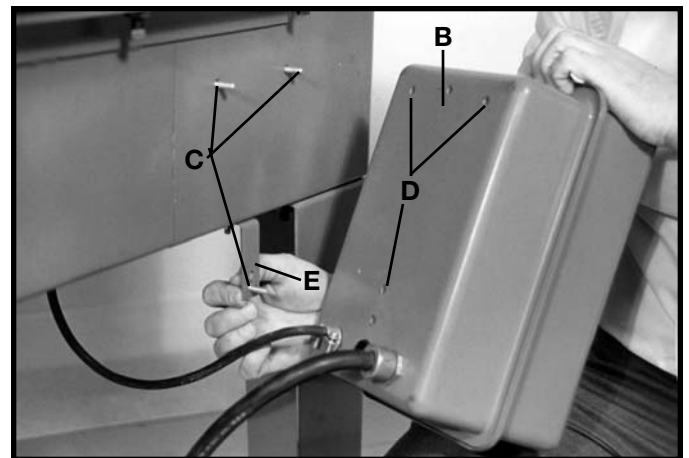

Fig. 14
2. Assemble the starter box (B) Fig. 14, to the right side of the base. Place a 1/4" lockwasher onto a 1/4-20x1/2" hex head screw, place a 1/4" flat washer on the screw and insert the hex head screw (C), through the hole in the in the bracket (E), and thread screw into the weld nut (D) Fig. 14, in the back of the starter box (B). Repeat this process for the two remaining holes in the base and the starter box.